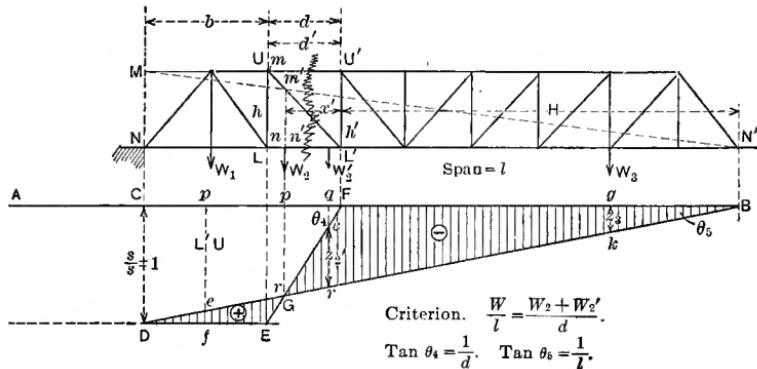

FIG. 4.
Web Members in Simple Trusses Having Parallel Chords. —The case shown in Fig. 4, presents an apparent exception to the general rule for drawing the influence line $DEFB$. The center of moments for any web member of a truss having parallel chords is at infinity. Taking N , the left
A negative ordinate in the influence diagram indicates that the resultant shear acts upward; therefore the vertical component of the stress in the web member, for which the influence diagram is drawn, acts downward. In Fig. 4, the member $U'L'$ is in compression for loads on the left of G . The vertical UL has the same influence diagram but it is in tension for the same loads.
The criterion for maximum shear is determined in the manner given above for maximum moment. Without writing all of the equations and referring to equation (13) and Fig. 4,